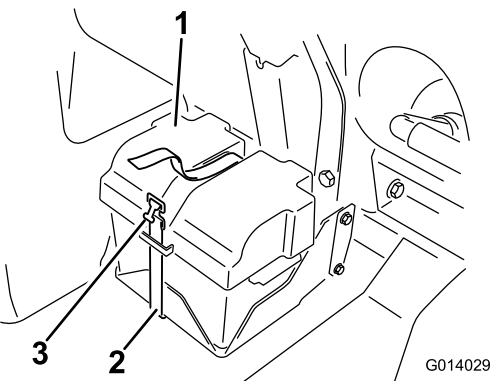

Figure 48
2. Remove the cover on the battery (Figure 48) and disconnect the negative (black) ground cable from the battery post.
3. install the battery cover and secure it with the strap removed previously (Figure 48).